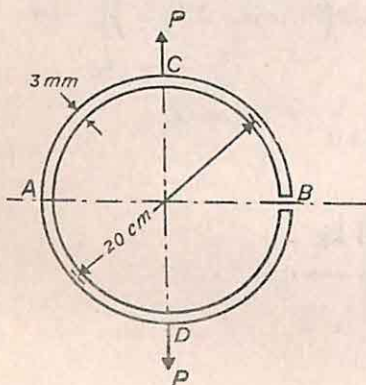

Fig. 47
26. The ring shown in Fig. 47 is made of flat steel strip  $20 \text{ mm} \times 3 \text{ mm}$  and is shaped in the form of a circle of mean diameter  $20 \text{ cm}$ . The ends at  $B$  are cut square and not joined. A pull  $P$  is applied along the diameter  $CD$  which is at right angles to the diameter  $AB$ . If the maximum tensile stress due to  $P$  is  $1,250 \text{ kg/cm}^2$ , find the increase in the opening at  $B$ .  $E = 2 \times 10^5 \text{ kg/cm}^2$ . (Lond. Univ.)